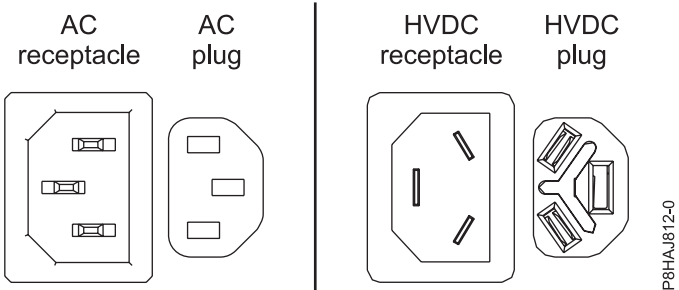
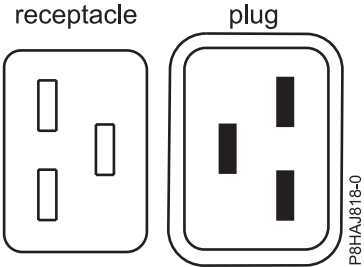
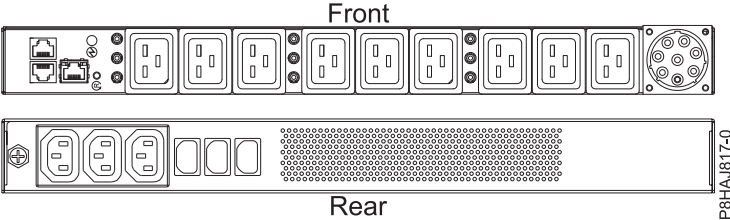

Figure 42. AC and HVDC connectors
Figure 43. Connectors for the 8408-44E system
Figure 44. PDU for the 8408-44E system
Figure 42 shows the supported alternate current (AC) and high voltage direct current (HVDC) connectors. Figure 43 and Figure 44 show the supported connectors and power distribution unit (PDU) for 8408-44E.